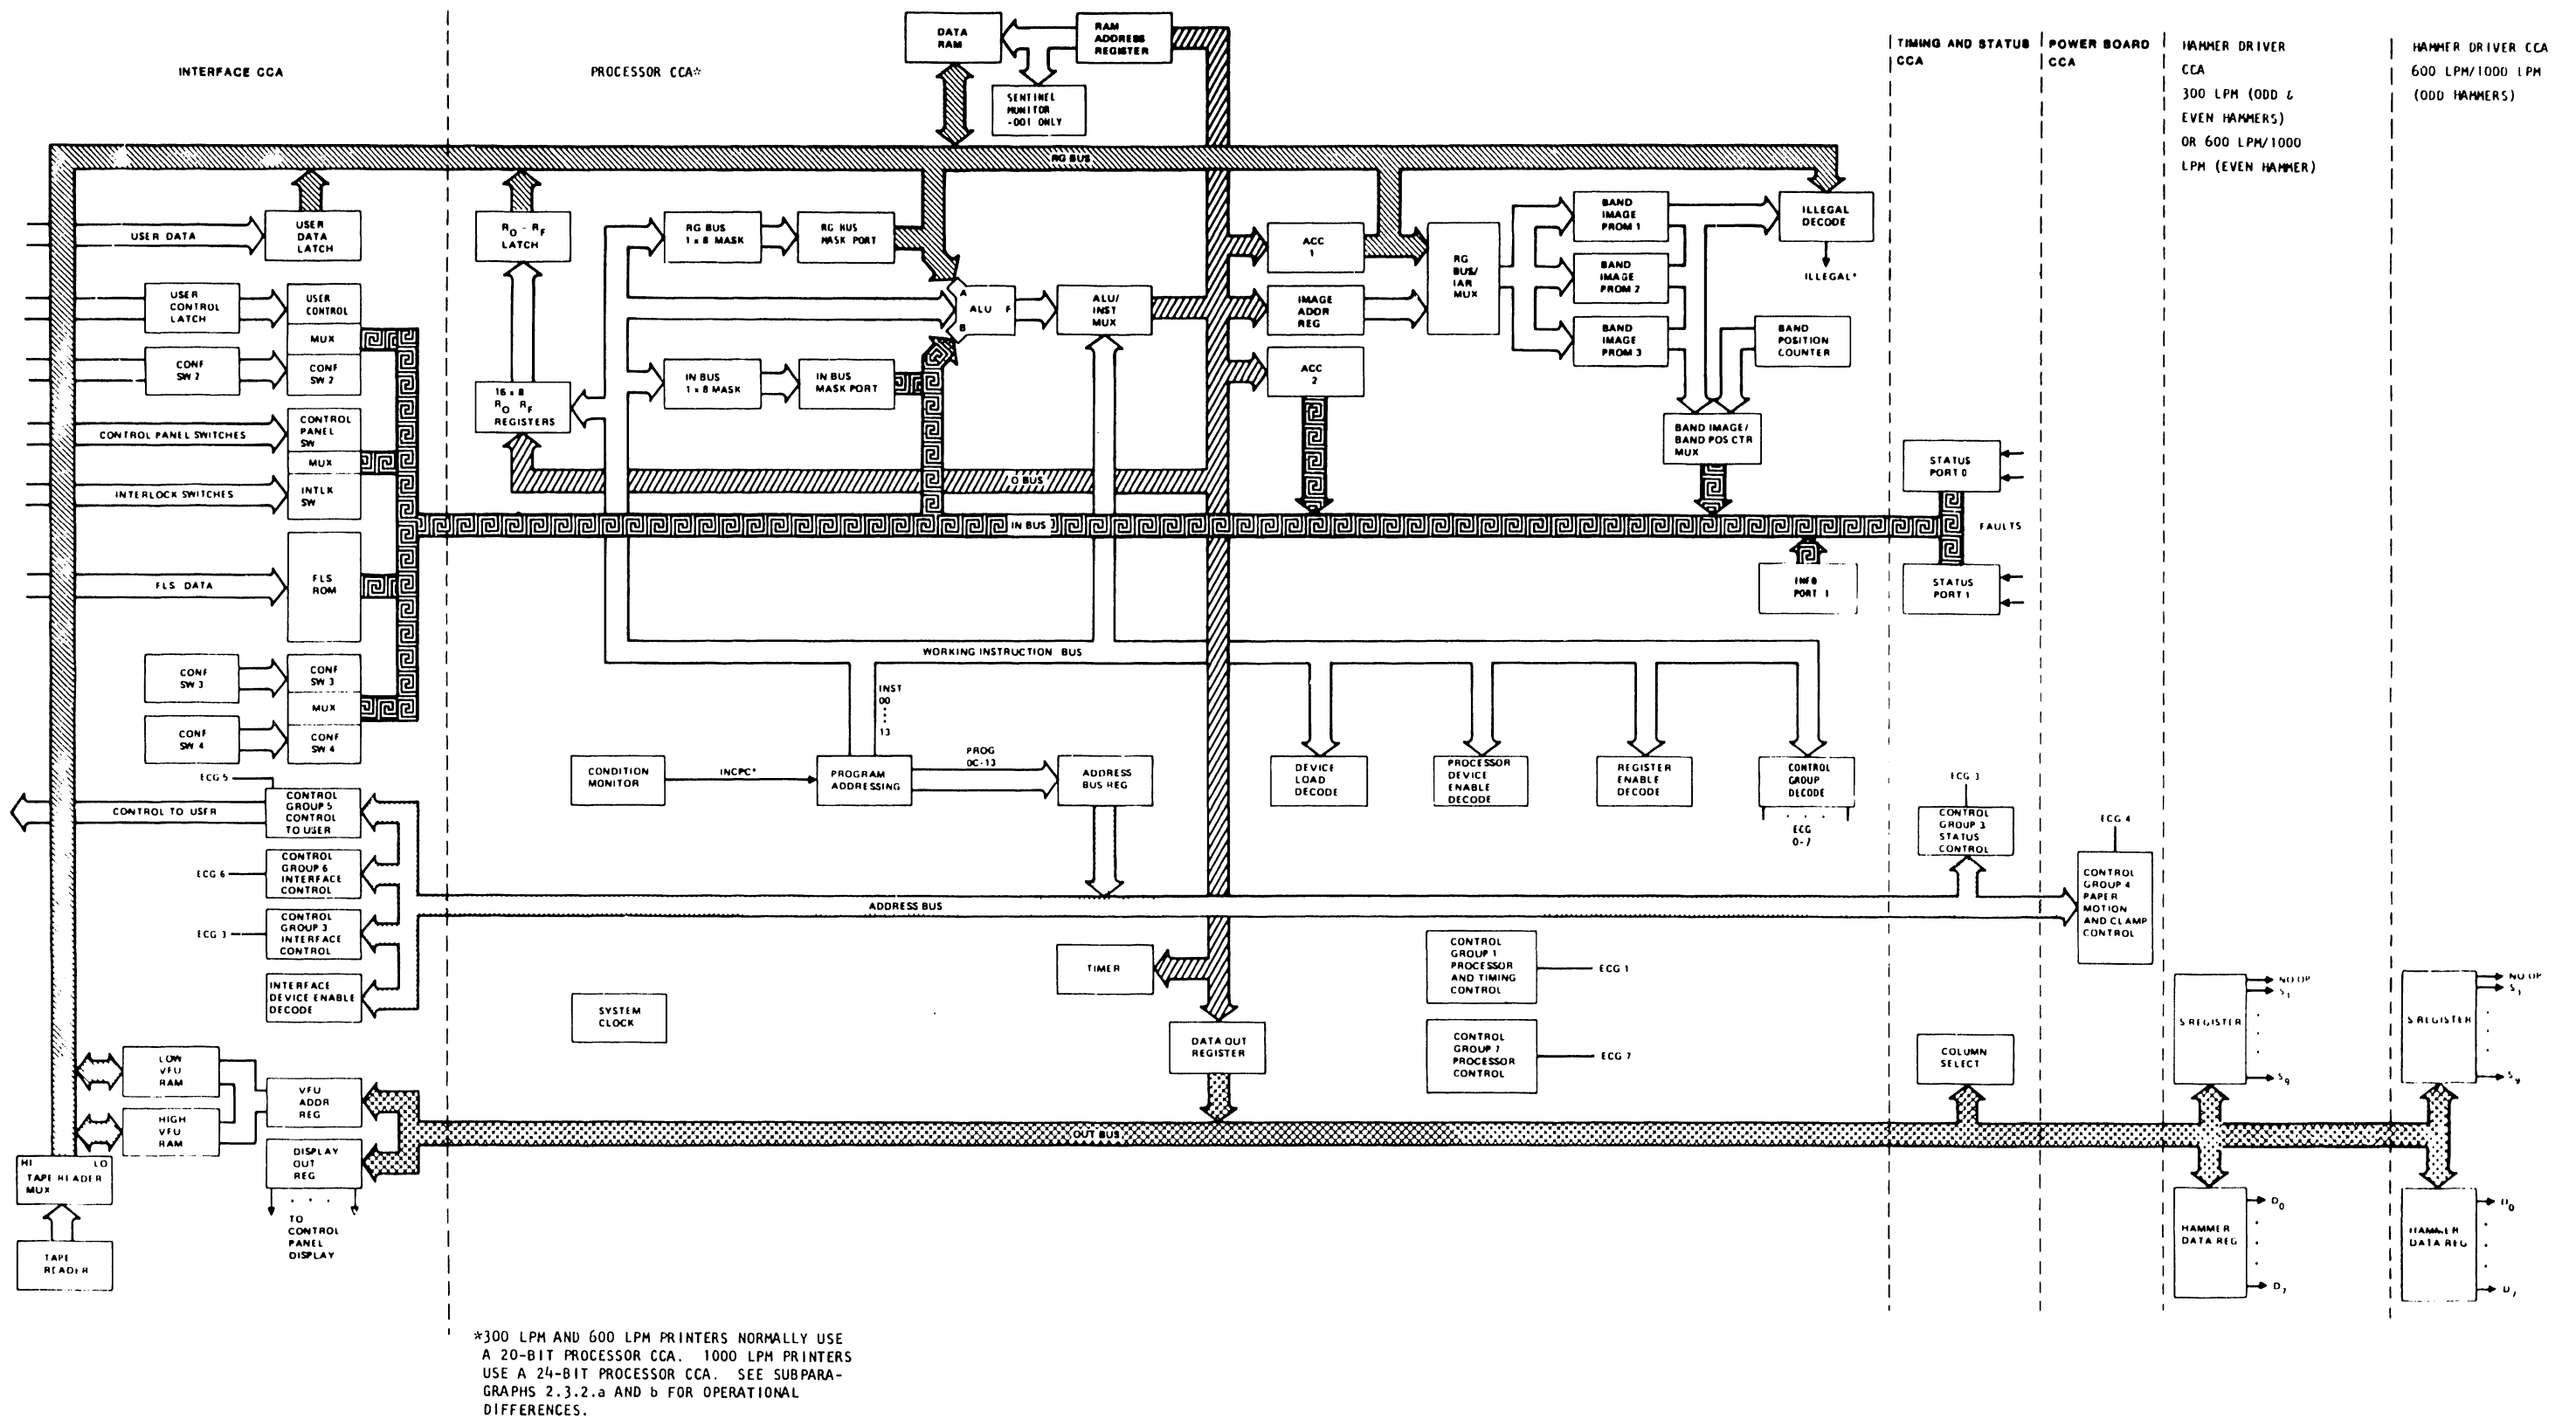

Figure 2-11. Circuit Card Assembly Device and Bus Block Diagram
**Figure 2-11** provides a block diagram of the standard arrangement of the CCAs, the CCA devices, and the bus structure.